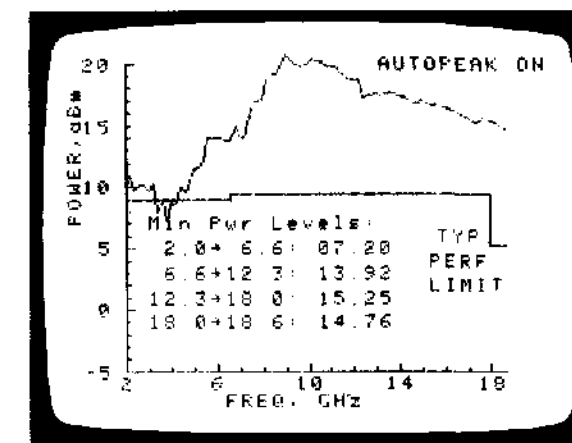

Figure 8-32. Squegging
**Squegging.** Squegging is an unstable YTM output caused by too much power being applied to the YTF input. See Figure 8-32 for an example of squegging. This condition can occur in Band 1 because the RF signal itself (rather than some harmonic of the RF signal) is applied to the YTF. To prevent squegging in Band 1, the RF signal is clamped to a safe power level before it is applied to the YTF. Therefore, if squegging occurs, first try to readjust the clamp circuit.